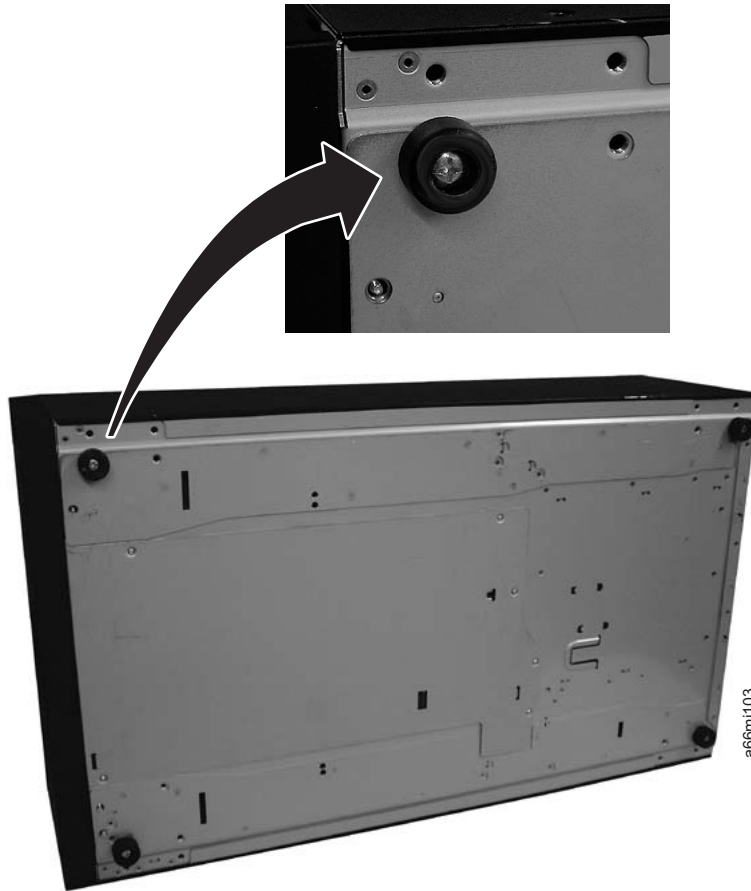

Figure 4-11. Foot pad Locations
2. Using a #2 Phillips screwdriver, install the foot pads on the bottom of the library chassis. See Figure 4-11 for foot pad locations.